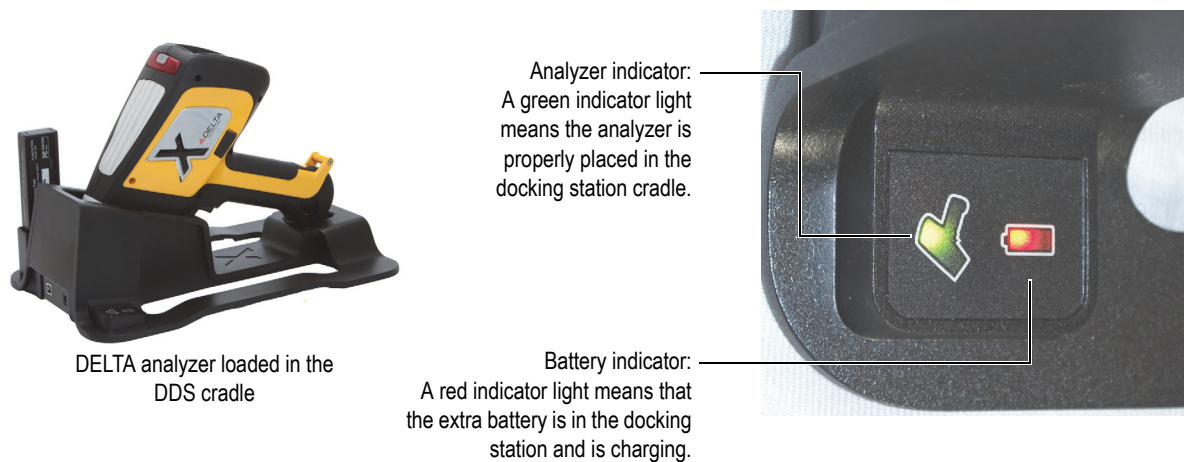

Figure 4-13 DELTA loaded in docking station
2. Place the analyzer in the DDS cradle (see Figure 4-13 on page 74).
3. Make sure that the DDS Analyzer indicator is on (green) [see Figure 4-13 on page 74].